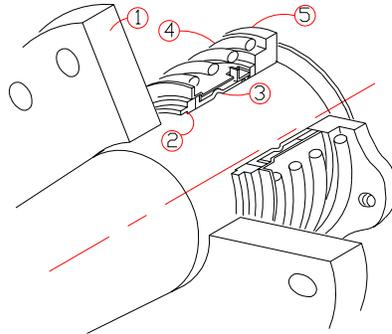

Fig. 21
The mechanical seal assembly (Fig. 21) is composed of a cover plate (1), seal ring (2), bellows type rubber packing (3), spring (4) and spring retainer. Lubricating oil and refrigerant gas are prevented from escaping by the action of the bellows on the shaft and the seal ring on the cover plate.